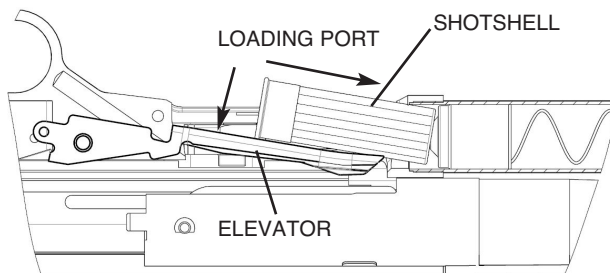

Figure 6
1. Carefully push the shotshell into the loading port, depressing the elevator (Figure 6). This will expose the magazine tube opening within the receiver.